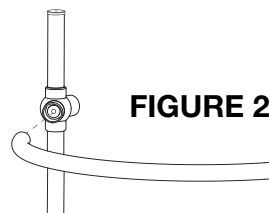

FIGURE 2
2 Slide one end of the curved tube (1) into the receiver (4E) on one of the legs (2). Be certain the tube is bottomed into the receiver. Repeat with the opposite leg. Insert and tighten set screws (4J) with the 3/32" Allen wrench (4A) provided. (see Figure 2)